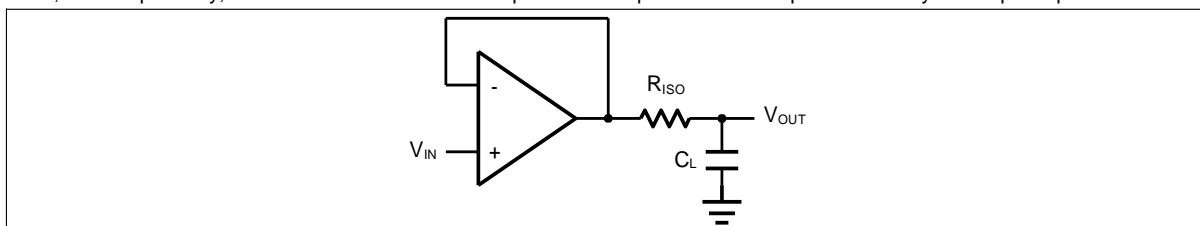
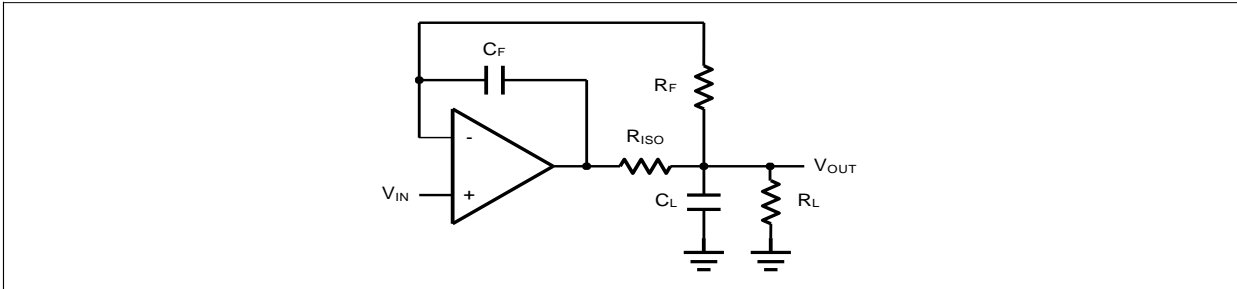

Figure 2. Indirectly Driving a Capacitive Load Using Isolation Resistor
Figure 3. Indirectly Driving a Capacitive Load with DC Accuracy
The HT862X family is optimized for bandwidth and speed, not for driving capacitive loads. Output capacitance will create a pole in the amplifier's feedback path, leading to excessive peaking and potential oscillation. If dealing with load capacitance is a requirement of the application, the two strategies to consider are (1) using a small resistor in series with the amplifier's output and the load capacitance and (2) reducing the bandwidth of the amplifier's feedback loop by increasing the overall noise gain. Figure 2. shows a unity gain follower using the series resistor strategy. The resistor isolates the output from the capacitance and, more importantly, creates a zero in the feedback path that compensates for the pole created by the output capacitance.
The circuit in *Figure 3* is an improvement to the one in *Figure 2*. R_F provides the DC accuracy by feed-forward the V_{IN} to R_L . C_F